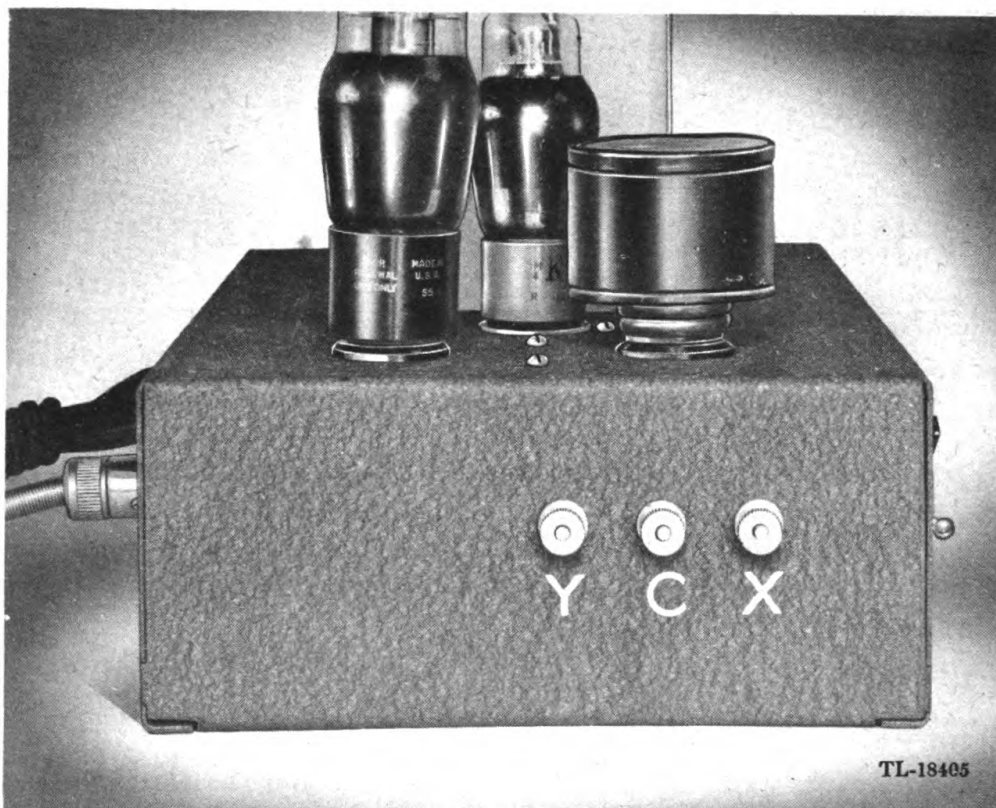

Figure 7. Relay terminals on electronic unit.
b. Connections and Interconnections. A heavy rubber-insulated two-wire cable, terminated at each end by shielded plugs, connects the auto head *on*, *center*, and *off* contacts to the electronic unit. The ground connection between the auto head and drive unit and the electronic unit is completed through the cable shielding. Each of the units is provided with a 6-foot line cord which must be plugged into a standard 115-volt outlet. A power switch is mounted on the front of each unit, so that the unit may be turned on and off as desired. Output connections are made to the following: Relay terminals Y and C (fig. 7), which are rated at 3 amperes, and may be used either in a control circuit directly, or connected to the keying relay of a transmitter (terminal X is a "back-contact" sometimes used in control circuits of bias keyed transmitters); tone terminals, (fig. 8), which match a 50-ohm line. Normal connections are made to the two binding posts. When a plug is inserted in the jack, the tone is disconnected from the binding posts. The control marked TONE CONTROL on the front of the electronic unit is actually a volume control which controls the level of tone to the output transformer. A switch marked RELAY CONTROL may be used to short out the relay winding when the tone output is used alone.